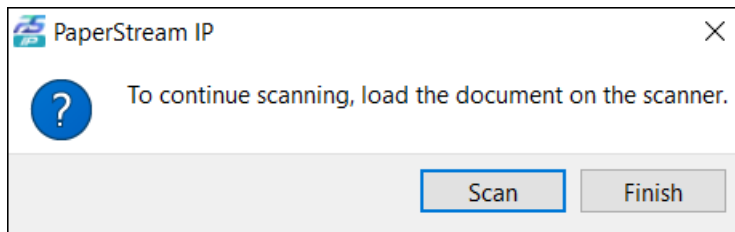

Figure 4-8. Message to continue scanning
2. When all the cards are scanned and returned to the box, close out the batch in PaperStream Capture when the message shown in Figure 4-8 reappears.